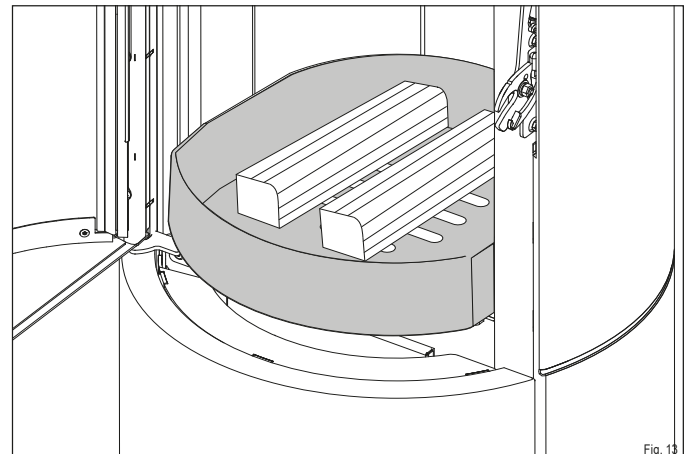

Fig. 13
- ▶ Add two logs (4) with a total weight of 1.4 kg in the middle of the firebox (face forward).
- ▶ Keep approx. 5 cm from the firebox glass (Fig. 13).